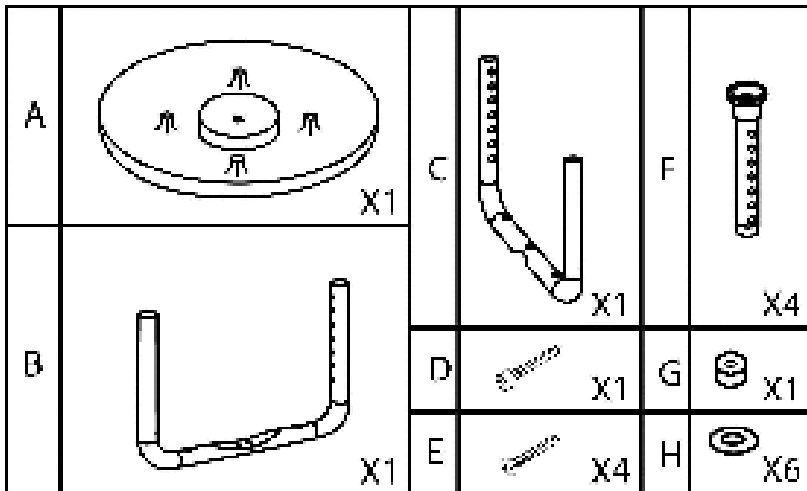

Fig 3.
1. Take all parts out of packaging and check before assembly (see Fig. 3).